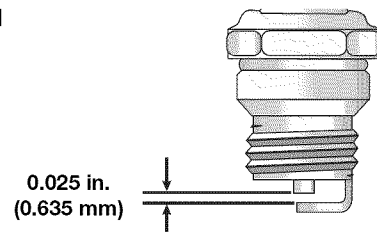

Fig. 20
- Replace a cracked, fouled or dirty spark plug. Set the air gap at **0.025 in. (0.635 mm)** using a feeler gauge (Fig. 20).